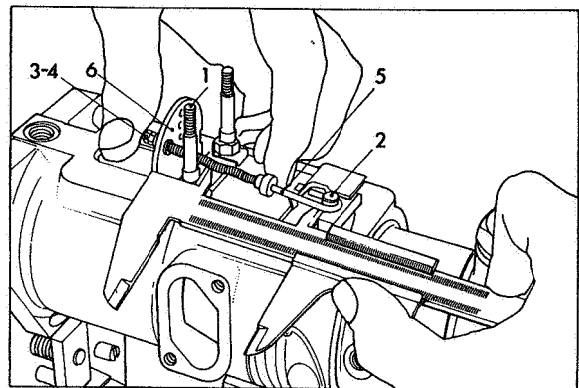

Fig 63 Setting governor linkage
Set the link length with a vernier gauge as shown in Fig 63 so that the correct internal dimension stated on the Test Data is obtained between the larger diameters of the governor control cover stud (1) and the metering valve lever pin (2). Adjustment is made by slackening the linkage locking nut (3) and tightening or loosening the linkage nut (4) on the end of the hook linkage (5). When setting, apply light pressure to the governor control arm (6) to hold the metering valve in the fully open position. Ensure that the vernier gauge is held parallel to the axis of the pump. After setting, tighten linkage locking nut.